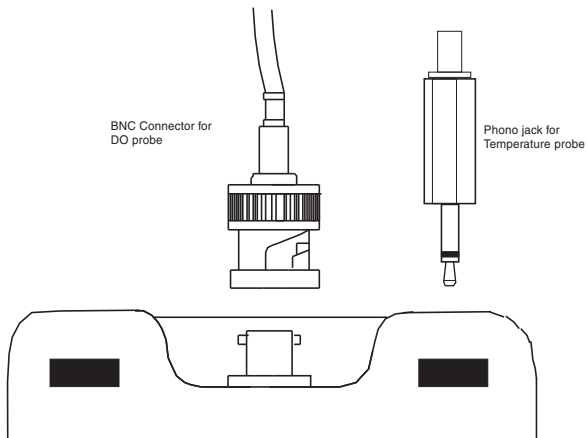

Figure 6: DO 6 probe to meter connections
1. Insert the BNC connector from the electrode to the BNC connector socket on the meter accordingly and rotate connector clockwise until it locks. See Figure 6 below.
3. Plug the phono jack of temperature sensor into the phono socket of the meter as shown in Figure 6 below.
For Automatic temperature compensation, make sure the phono jack of the probe (see Figure 6 in Section 3.5) is securely inserted. The ATC annunciator “A” will be blinking if the ATC probe is disconnected. Activate the “A.ATC” mode in the set up menu, if necessary. See page 36.